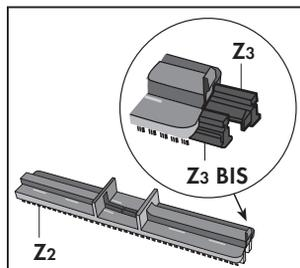

Fig. 16
- Bristled frame (Z2) combined with stiff inserts for fitted and non-fitted carpets (Z3 and Z3 BIS) (Fig. 16).